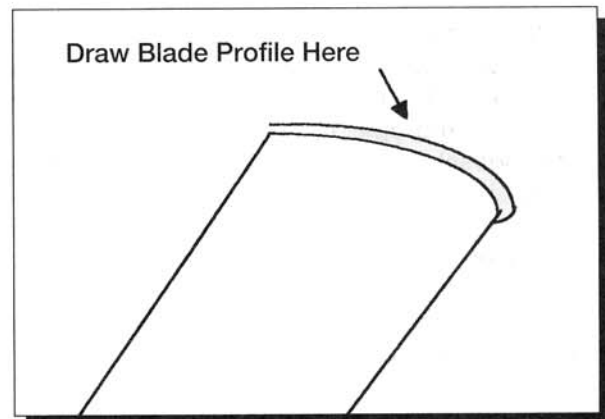

Fig. 10 Blade profile scribed on fan housing.
6. At the tip of the master blade, use a thin marker pen to scribe the blade profile on the interior of the fan housing from the leading to the trailing edge of the blade tip (Fig. 10).